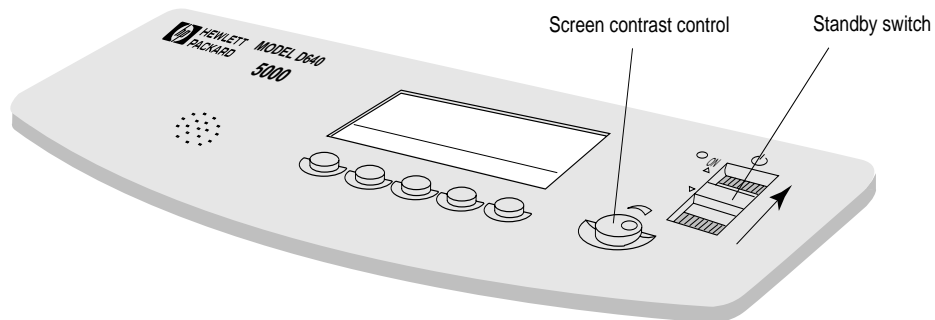

Figure 1-11 Turning on the standby switch
3. Turn on the Standby switch, as shown in Figure 1-11, by holding the switch in the up position momentarily.
4. If you do not see anything on the display after 5 to 10 seconds, turn the screen contrast control to the 2:00 o'clock (1400) position, as shown in Figure 1-11. You can then adjust the control to an appropriate level.